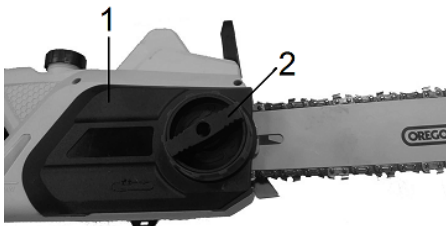

Fig.5
5. Fitting the cover (1) and tighten nut (2) on sprocket cover. (fig.5)